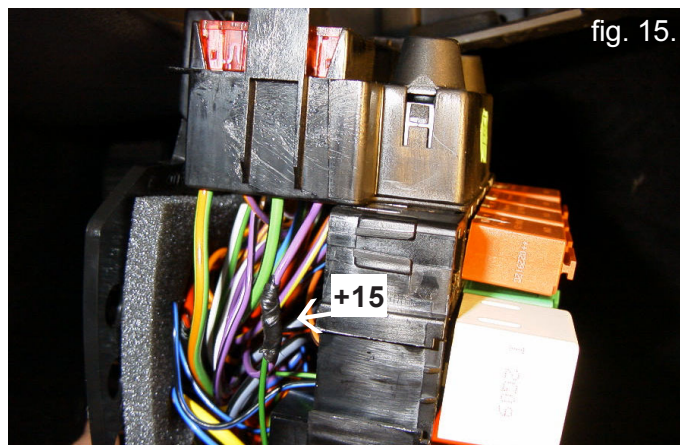
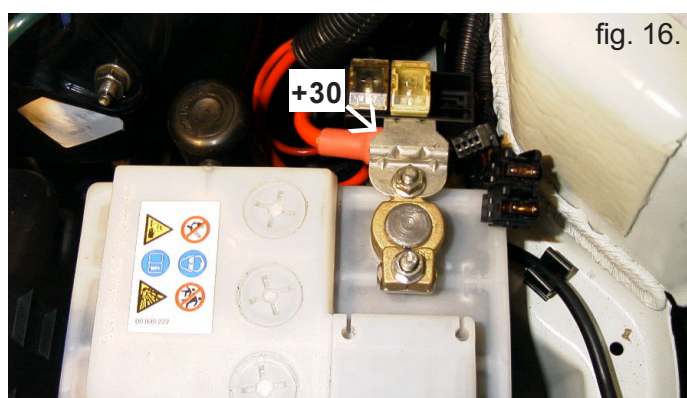

fig. 15.
fig. 16.
8. Power. Connect the power wire (+15) to the underside of the fuse box on the right-hand side of the dashboard. Connect the green/black wire to the purple wire. See fig.15. Connect the red power wire (+30) to the battery + pin with a cable eye. See fig.16. Place the fuses in the holders (+30=7,5A, +15=3A). Put these together with the Monio connector under the batterycover.